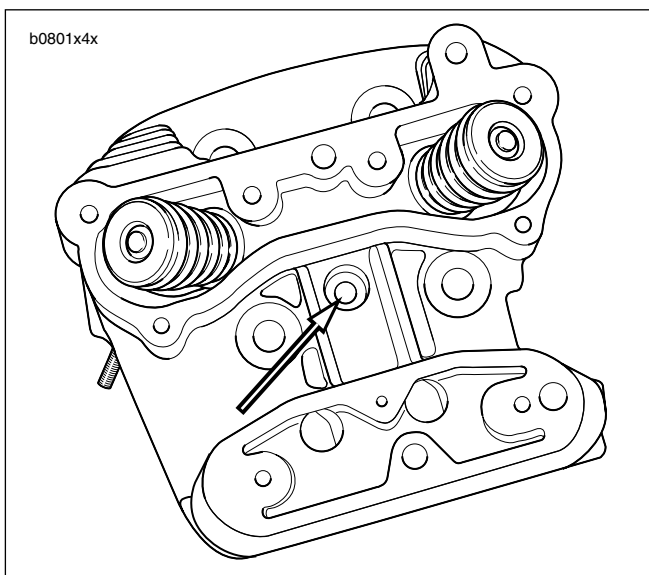

Figure 4-76. Engine Temperature Sensor Location (rear cylinder head)
1. See Figure 4-76. Screw sensor into rear cylinder head.